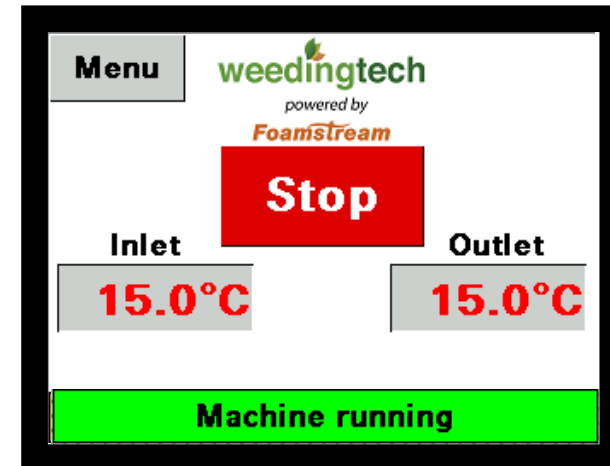

Figure 17 – Stop button showing on the PLC
- Press the red stop button pictured on Figure 17. All lights will extinguish apart from the white 'power' light and the red fault light. The red fault light will remain on until the water temperature in the M1200 drops to a safe level and the pump stops.